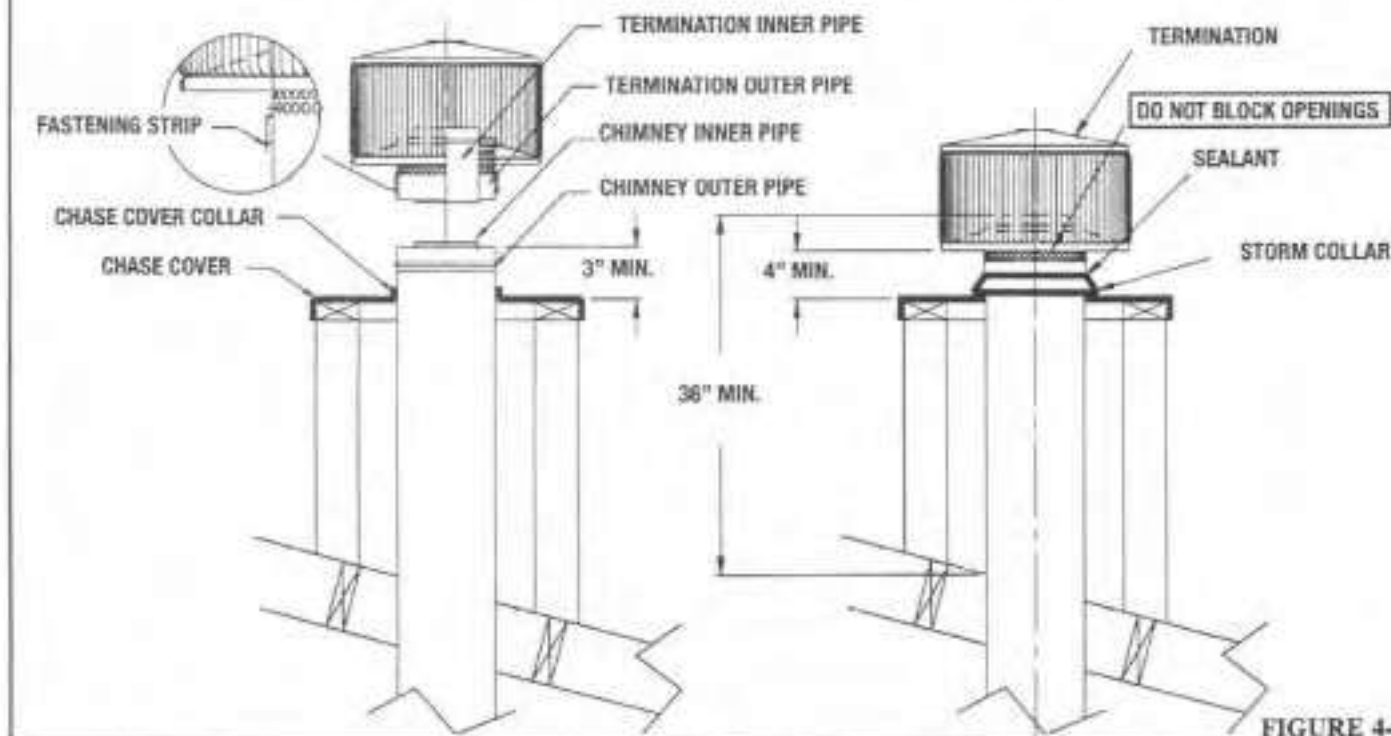

FIGURE 4-16
2. Push the termination assembly down onto the chimney until the outer pipe engages the fastening strips on the termination outer pipe. (See figure 4-16).
3. Secure the termination by installing three (3) sheet metal screws through the outer pipes. One screw on each of the termination's fastening strips.
4. Ensure that the outer pipe extends at least 3 inches above the chase cover. (See figure 4-16).
8. Secure the termination by installing three (3) sheet metal screws through the outer pipes. One screw on each of the terminations fastening strips.